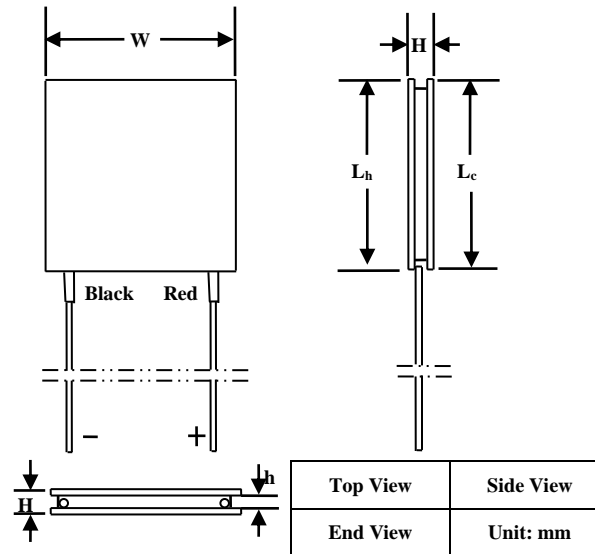

Figure 2. Mechanical Dimensions of Sealed ATE1-TC-71
The ATE1-TC-71 TECs come with 2 insulated lead wires. The positive wire is in red color, and the negative wire is of black. The mechanical dimensions are shown in Figure 2.
**Note:** As Figure 2 shows, when the red lead wire is on the right, then the top surface is the cold side of the TEC.